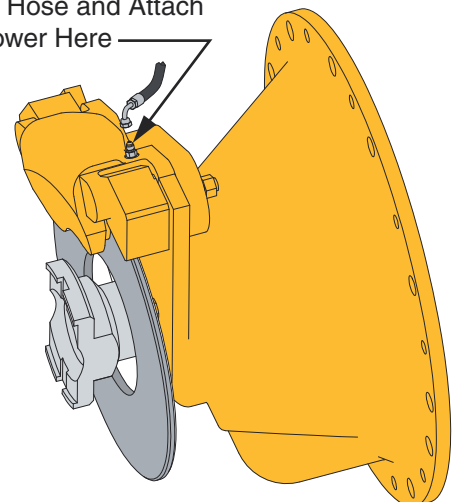

Figure 5-7-2 Connect Porta-Power
1. Remove hose from park brake caliper and connect porta-power (see Figure 5-7-2). Operate porta-power until park brake disengages.